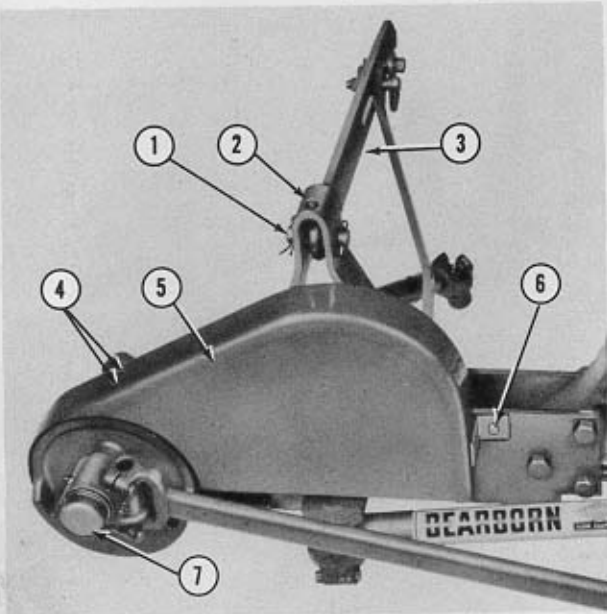

Figure 7
11. Attach the mower belt guard (5), Figure 7, to the mower main frame as follows:
- Secure the guard to the bracket with the two machine screws (4), Figure 7.
- Attach the guard to the threaded hole in the main frame with a 1" cap screw (6), Figure 7.
12. Attach the mower top link (3), Figure 7, to the top of the A-frame (2) with a 3" pin (1) and secure each end with the cotter pins provided.